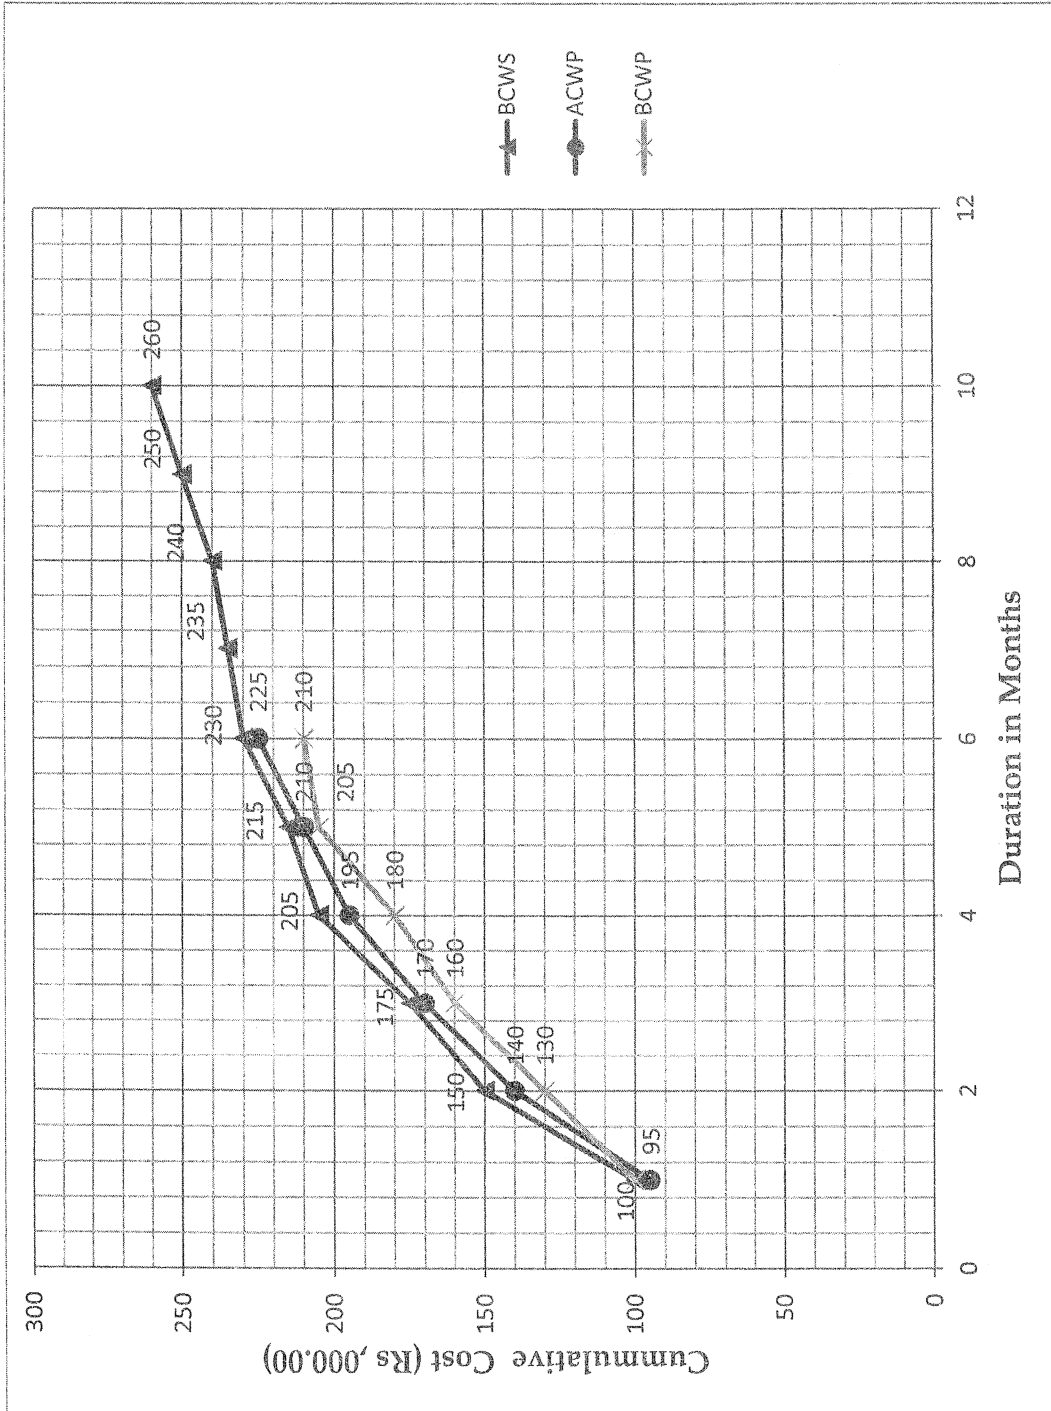

Figure Q1: Earn Value Chart
- c) Figure Q1 represents an Earn Value Chart for a project updated at the end of month 6.